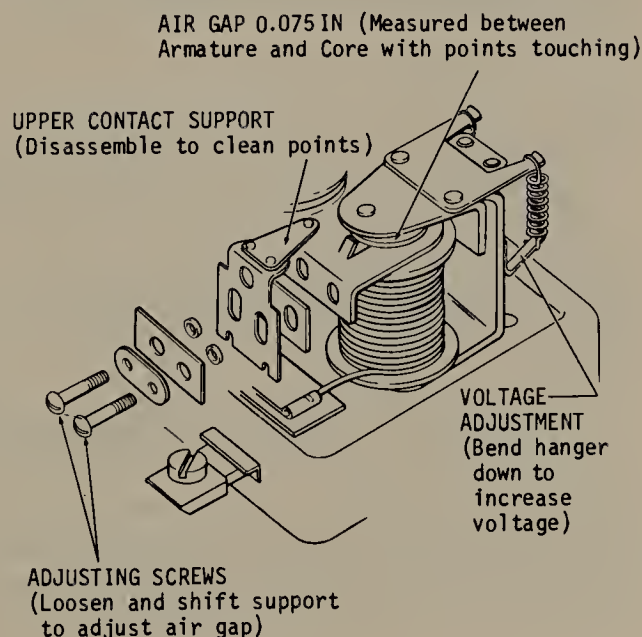

FIGURE 13.18 Current-voltage regulator unit, showing adjustments. (Kohler Company.)
with the result that generator output will be low. This could lead to a run-down battery. You can clean the contacts with a fine-cut file. This requires loosening of the screws holding the upper contact assembly in place so it can be swung to one side, or removed. See Fig. 13.18.
a. *Air Gap.* See Fig. 13.18. Adjust by loosening the two adjusting screws and raising or lowering the upper contact point assembly. Adjustment is correct when the specified air gap is attained with the contact points just touching. Tighten the screws and recheck the air gap.